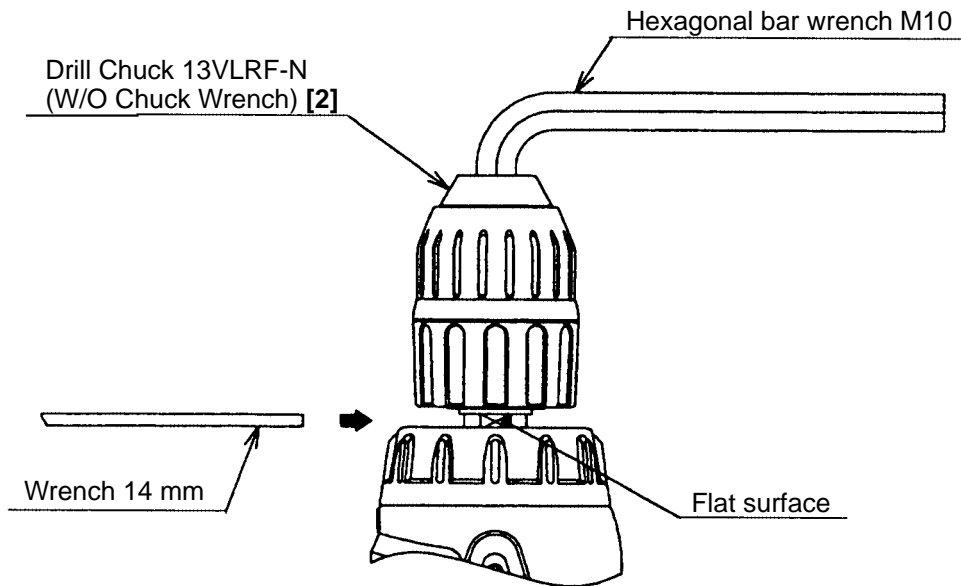

Fig. 4
(1) Removal of the Drill Chuck 13VLRN-N (W/O Chuck Wrench) **[2]** (See Fig. 4.)
- (b) Fix the hexagonal bar wrench M10 into the Drill Chuck 13VLRN-N (W/O Chuck Wrench) **[2]** as indicated in Fig.4. Next, apply the Wrench 14 mm (special repair tool, Code No. 873929) **[601]** to the flat surfaces on the spindle to hold it steady, and remove it by turning counterclockwise. If it is difficult to loosen, use a pipe extension or similar tool.